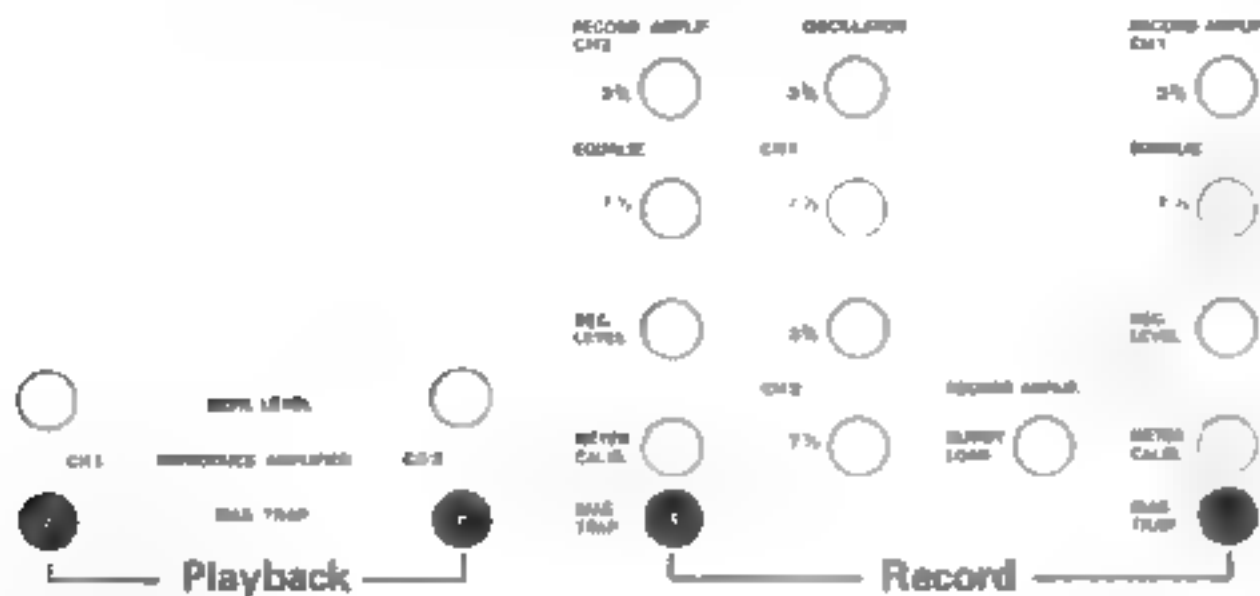

Fig. 6.4–64
— Set controls per fig. 6.4 –59
A. — Measure erase head voltage against ground with VTVM at VU-meter board (fig. 6.4 –60) orange HB3 (CH 2) and blue HB6 (CH 1).
Oscillator frequency is measured with digital counter or oscilloscope. The frequency is 120 kHz (± 5 kHz) and is measured at orange HB3 and blue HB6 (fig. 6.4 –60) against ground. (Oscilloscope: 12 oscillations per 100 μ sec).
- Connect digital counter or oscilloscope to blue HB6 (fig. 6.4 –60).
— Set controls per fig. 6.4 –62
- Connect VTVM to test point C 515 of the respective record amplifier (fig. 6.4 –63), see also diagram 1.077.705.
Less than < 300 mV (fig. 6.4 –64).
- Under same conditions as 6.4.3. but, connect VTVM to OUTPUT terminals CH 1 and CH 2 and set BIAS TRAP of playback amplifier to a voltage minimum : Less than < 50 mV (fig. 6.4 –64).